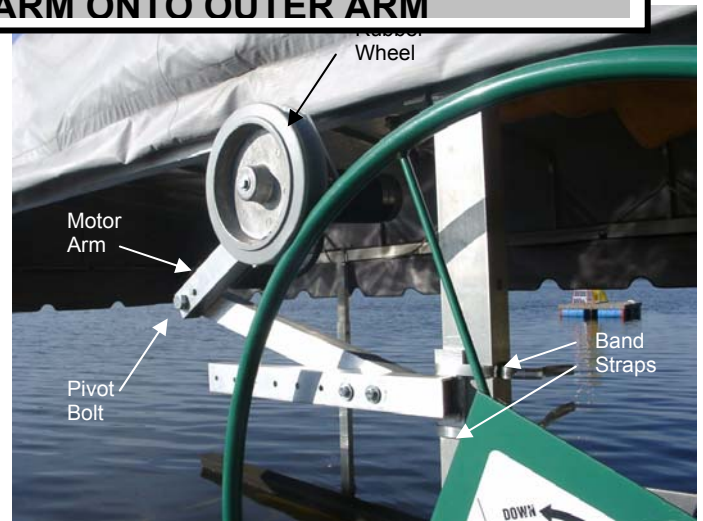

FIG. 14
1. Run the 5/8" pivot bolt thru the pivot hole in the motor arm with threads away from dock. See Fig. 14.
2. Run the 5/8" bolt thru the pivot hole in the outer arm and lightly screw on 5/8" nut. See Fig. 14. The motor arm should be in front of the outer arm. See Fig. 14.
3. Rotate the motor up and over the pivot so motor's rubber traction wheel rests on the boat lift wheel. See Fig. 14.
4. The lift motor's rubber traction wheel should be touching the lift wheel at roughly the 10 or 2 o'clock position. See Fig. 14. If the motor is not positioned correctly review *Step 2 : Install Outer Arm Onto The Inner Arm* on the previous page. Adjust the angle of the outer arm until the motor rests near the 10 or 2 o'clock position on the lift wheel. See Figs. 12 & 13.
5. Firmly tighten the band clamps on the winch post using a 5/16" wrench. See Fig. 14.